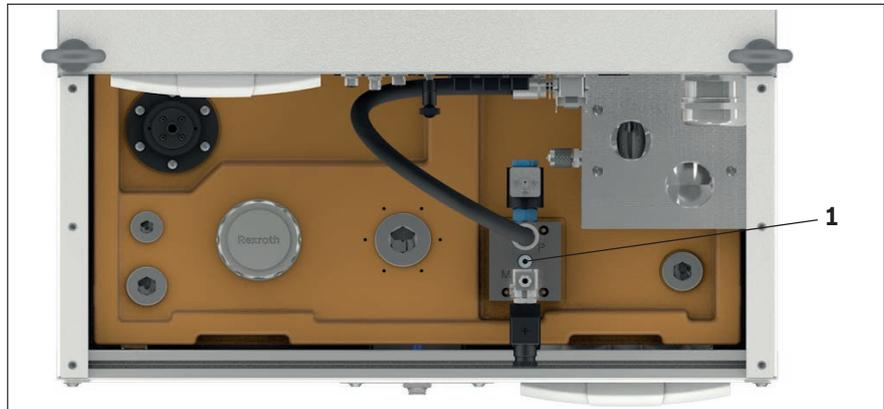

Fig. 16: Pneumatic connection
- ▶ Connect a pneumatic hose (d = 6 mm), see Fig. 16, pos. 1.